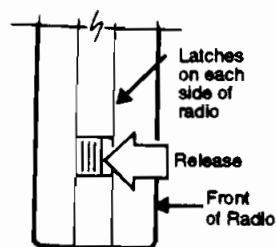
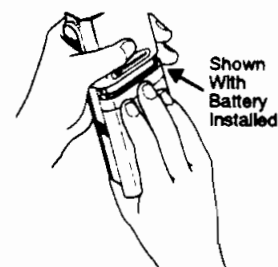

Figure 1a.
Figure 1b.
1. Unlock the battery compartment by setting the battery cover latches to the release position as shown in Figure 1a. (The orange tabs should be visible.) Remove the battery cover by sliding the battery cover down about 1/4" and lifting off as shown in Figure 1b.
1. Unlock the battery compartment (Figure 1a) and remove the battery cover.
1. Unlock the battery compartment as shown in Figure 1a.